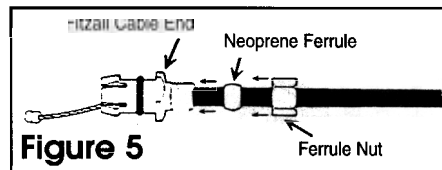

Figure 5
4. Assemble the Teckpak-Fitzall Cable End (**Figure 5**). First, attach the ferrule nut, then the neoprene ferrule, and finally the cable end. Then push the end onto the old cable until it bottoms.